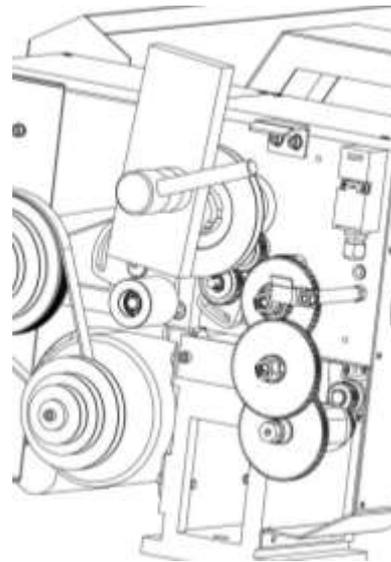

Figure 37
3. Place a wooden block over the outboard end of the spindle, and hit it soundly with the heavy dead blow hammer (see **Figure 37**).